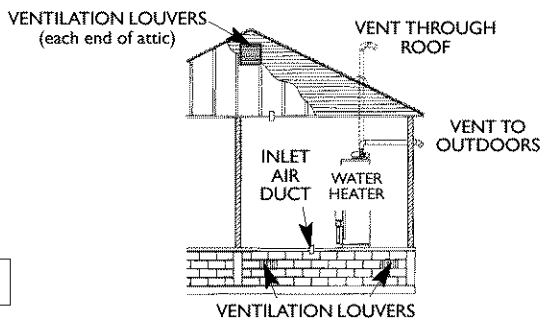

Figure 7
1. When directly communicating with the outdoors, each opening shall have a minimum free area of 1 square inch per 4,000 BTU per hour of total input rating of all equipment in the enclosure. (See Figure 7.)